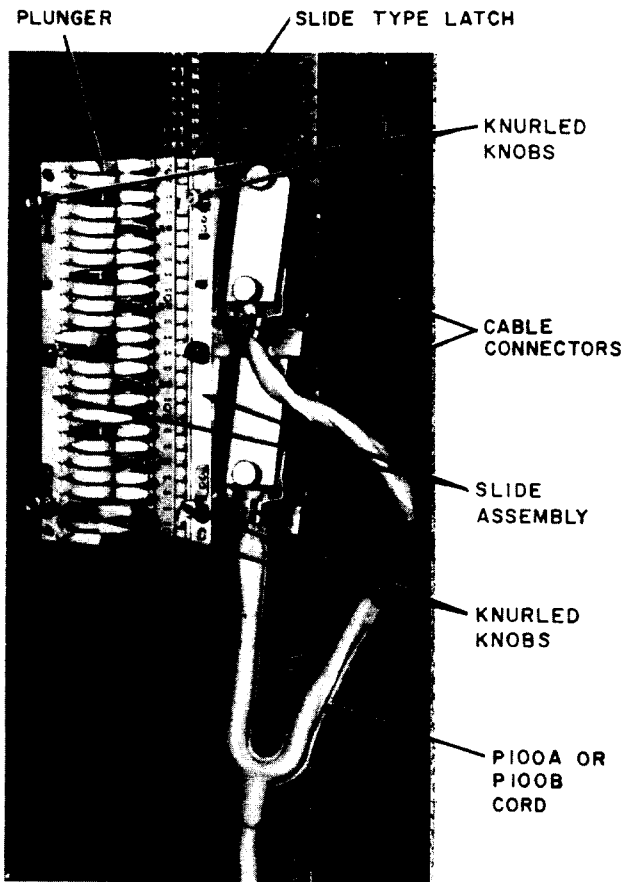
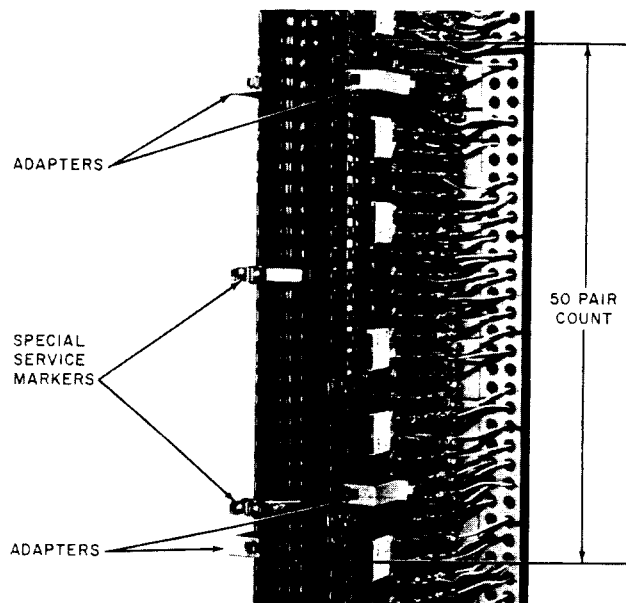

Fig. 3—F Test Connector on 444-Type Jack
Fig. 7—Adapters Placed on 444-Type Jack
(2) The left and right slide assemblies (Fig. 3) should be in the *up* position when the central office equipment is to be removed from any pair.
**3.21** Pull the 50 plungers out to the *latched* position. Place four adapters on jacks, in the 50-pair count to be tested as near to the upper and lower extremes of the 50-pair count as special service markers permit. (Fig. 7). ***The adapters (Fig. 7) used to place the F test connector should be marked with an X on the side.*** Place and lock the F test connector on the adapters by rotating the four knurled knobs so the locking plate positioning dots are aligned with the dots on the chassis. Release the latches on the plungers to make contact with the springs of the 444-type jacks. The left and right slide assemblies (Fig. 3) should be in the *down* position when the plungers are released to contact the cable pairs. The left and right slide assemblies should be in the *up* position when the central office equipment is to be removed from any pair. Special service markers prevent contact with the springs associated with special service pairs.